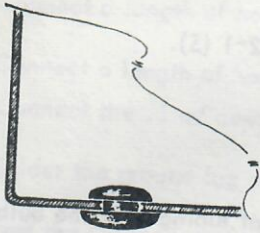

Fig. 10
- 10) Insert the rubber feet in the openings provided in the bottom of the cabinet as shown. The method is to work the rounded portion of each foot into the interior of the cabinet from the outside, using a small screwdriver. The flat portion should be the actual resting or contact surface. See insert drawing of Fig. 10.